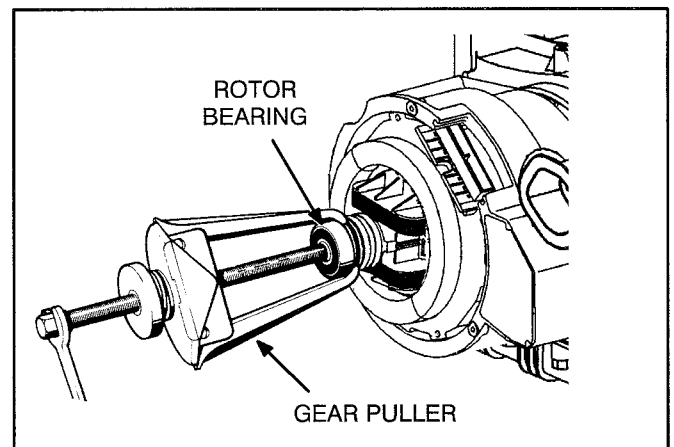

FIGURE 7-12. ROTOR BEARING REMOVAL
2. Use a small puller with grips that will fit between the bearing and the collector ring assembly (Figure 7-12) or use an arbor press to remove the bearing. Cover the end of the rotor shaft taper with a steel plate to prevent deformation of the shaft during removal.